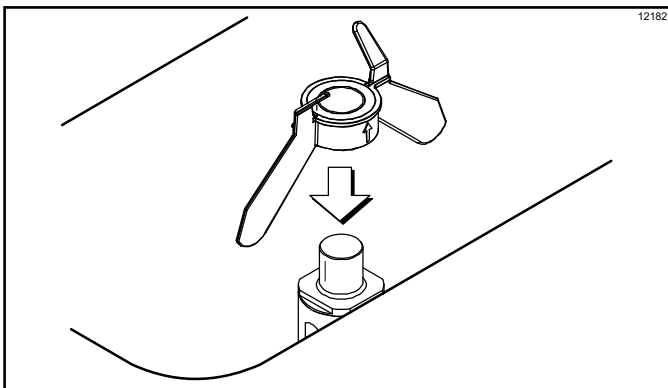

Figure 6-42
14. Place the agitator on the agitator driveshaft housing. (See Figure 6-42.)